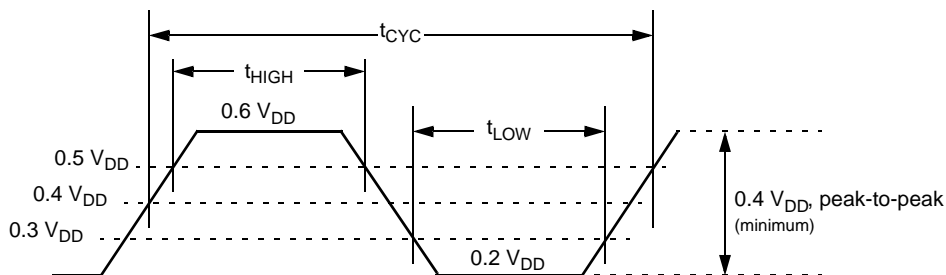

Figure 6-6. 3.3V PCICLK Waveform
- Rise and fall times are specified in terms of the edge rate measured in V/ns. This slew rate must be met across the minimum peak-to-peak portion of the clock waveform as shown in Figure 6-6.